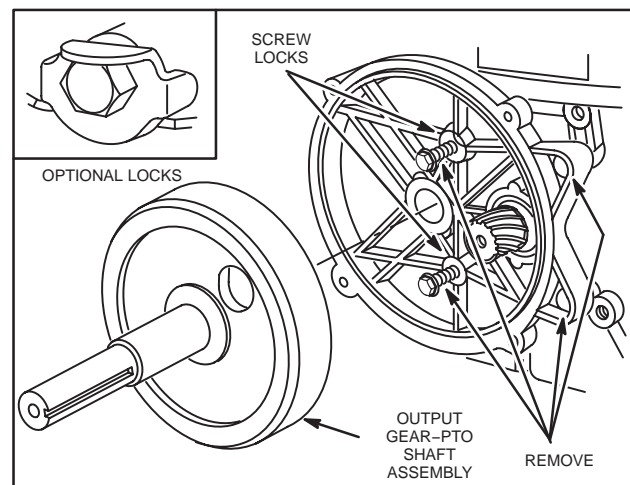

Fig. 138 – REMOVING GEAR CASE
4. Slide gear case assembly from engine, Fig. 138.